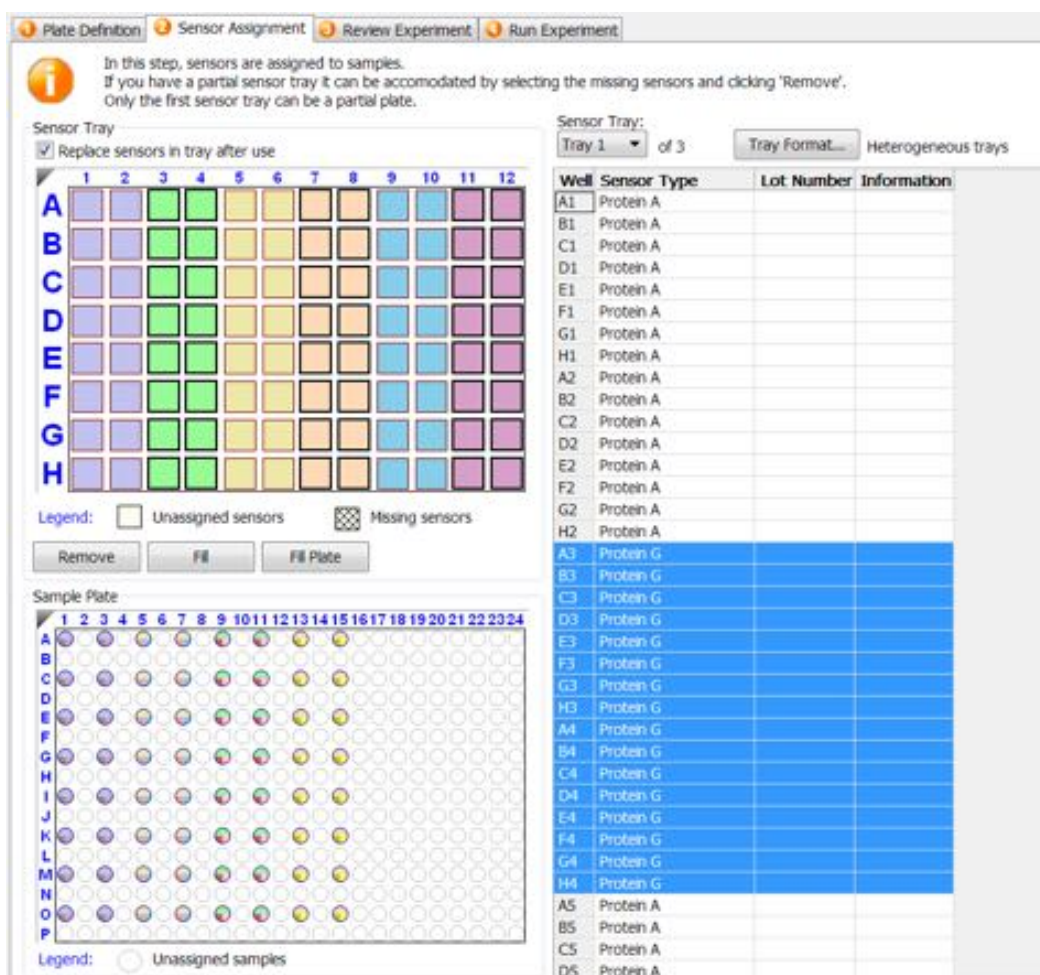

Figure 7-53: Biosensor Assignment using Heterogeneous Trays and Two Biosensor Types
4. Select the columns in the **Sensor Tray Map** that should contain the second biosensor type, right-click and select the second biosensor type (see Figure 7-53).
In the example shown in Figure 7-53, Protein A and Protein G biosensor types are used for a multiple analyte experiment using two replicates. Three heterogeneous biosensor trays will be needed for the experiment.